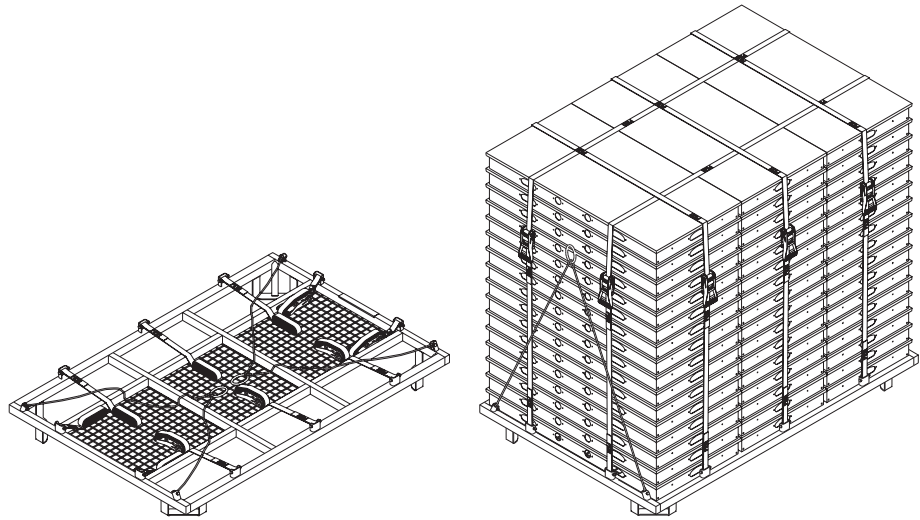

Fig. 1
- Pallet SD: 48 pieces (Fig. 1)